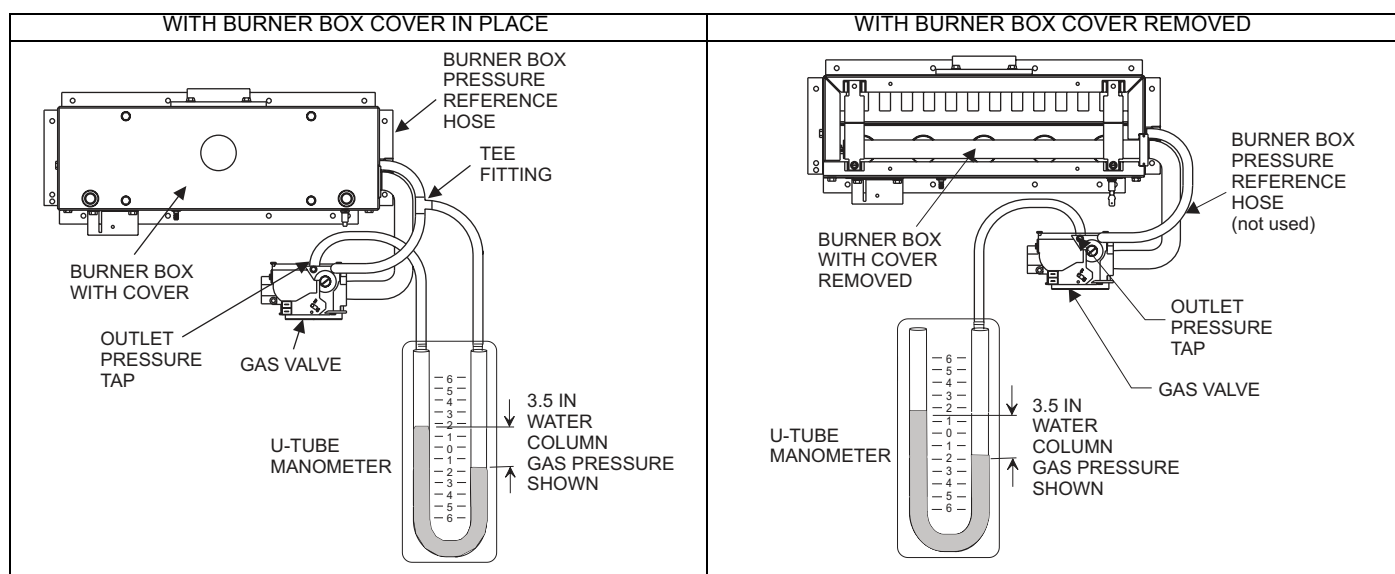

FIGURE 23: Reading Gas Pressure
Manifold gas pressure may be measured by two different procedures. It may be measured with the burner box cover in place or it may be measured with the burner box cover removed. Follow the appropriate section in the instructions below. Refer to Figure 23 for a drawing of the locations of the pressure ports on the gas valve.
1. Refer to Figure 23 for location of pressure regulator adjustment cap and adjustment screw on main gas valve.